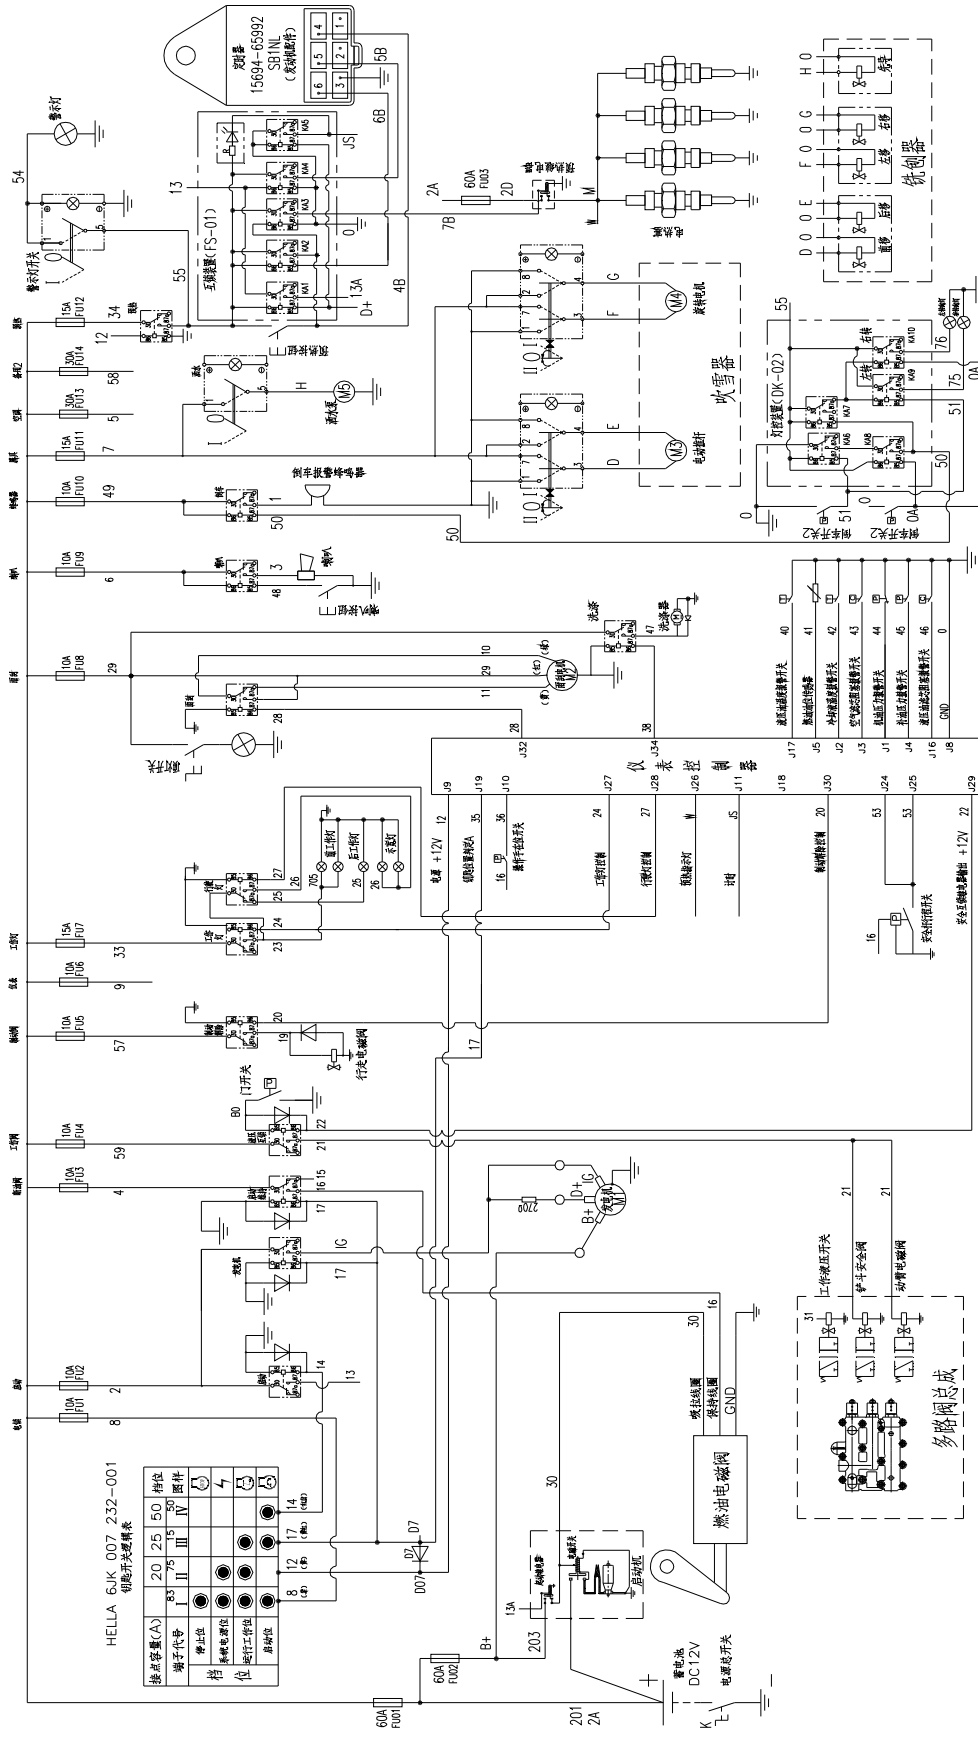

Figure 9 ELECTRICAL WIRING DIAGRAM
2.6.2.1 The rated voltage of the machine system is 12V, negative earth, single-wire line , see the electrical wiring diagram (Figure 9) for more information about wire connection. Adopts maintenance-free battery (N120 120Ah), primarily as power supply of starter motor. In normal working hours, the auxiliary generator of the diesel engine charges the battery. If the charge can not be boosted or can not be charged properly for any reason, do disassemble the battery from the machine for charging.